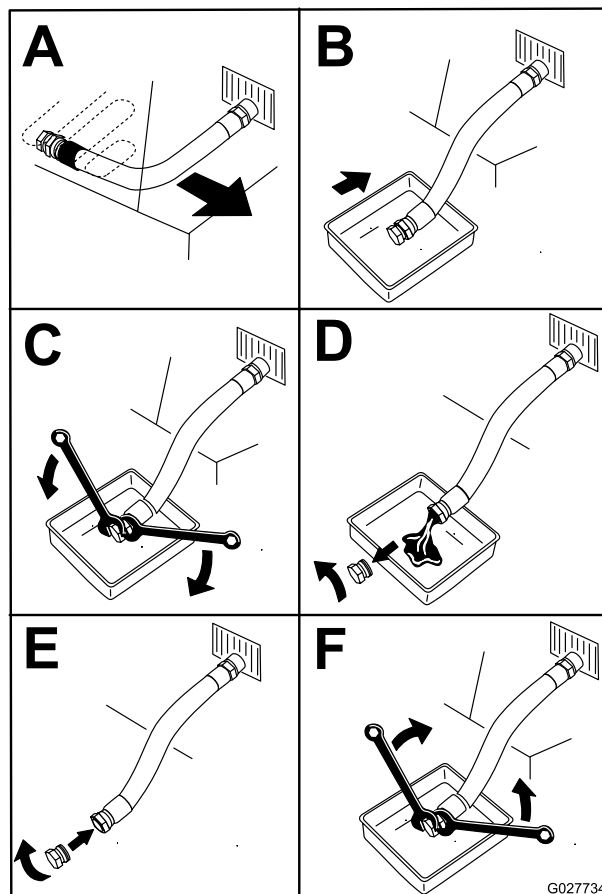

Figure 50
5. Drain the oil from the engine (Figure 50).